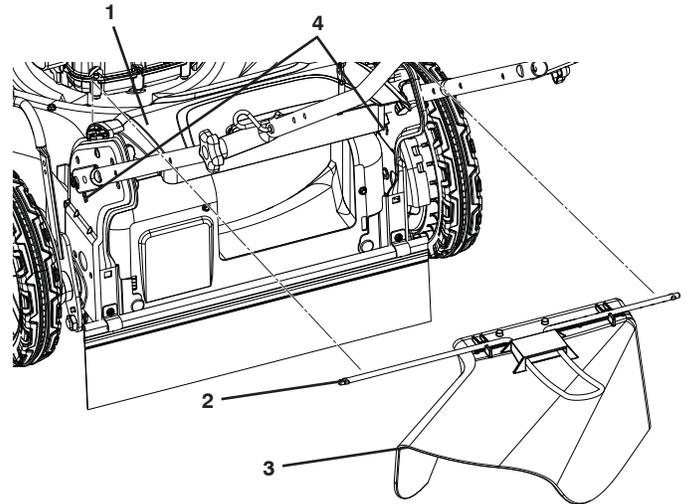

Figure 14
1. Lift the rear door and install the clipping deflector (available accessory) legs into holes of handle brackets as shown (Figure 14).